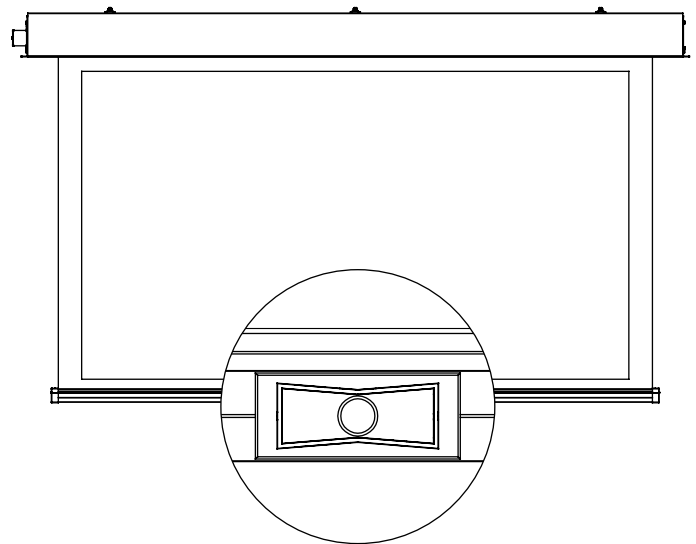

Figure 2
3. Lower the Advantage (Featuring ViewShare Technology) screen and note the camera location in the center of the slat bar (Figure 2).